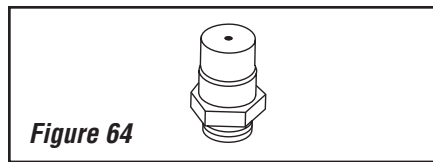

Figure 64
- a. Remove the orifice from the manifold and replace it with the one provided in the kit. The following Table shows the orifice sizes for natural and propane models. **Figure 64, page 42** illustrates the orifice.